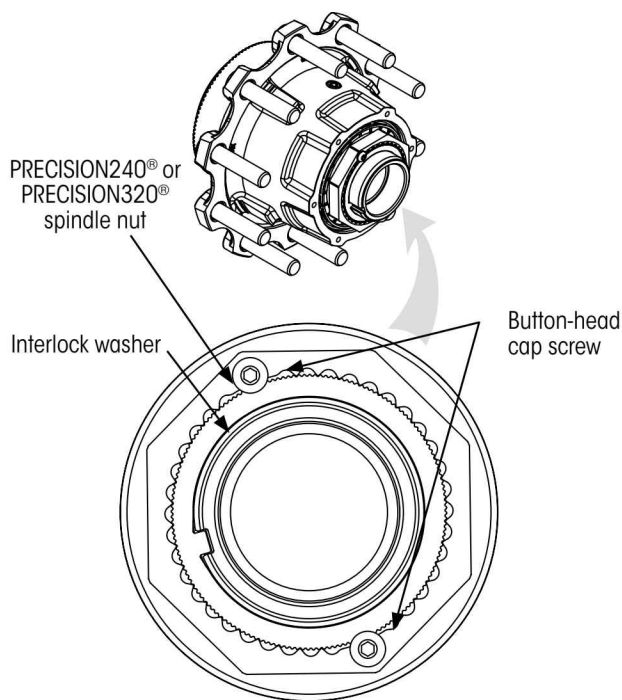

Figure 7: Button-head cap screw on PRECISION240® or PRECISION320® nut system
4. Using a hex key (TOOLS REQUIRED on page 6), **remove** button-head cap screws from interlock washer Figure 7.